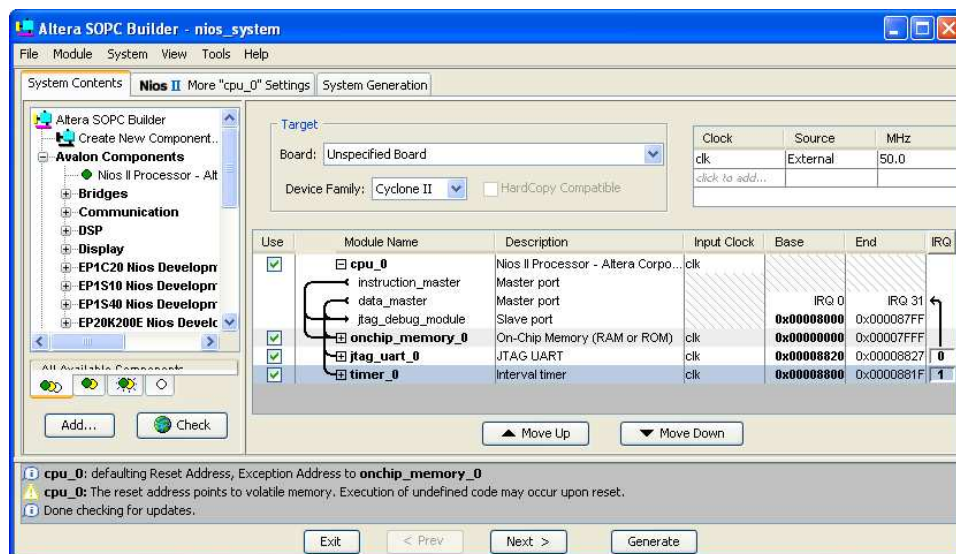

Figure 5. The Nios II system implemented by the SOPC Builder.
3. From the **System** menu, select **Auto-Assign Base Addresses**. You should now have the system shown in Figure 5.
handler as chosen by the SOPC Builder. The exception return address in the *ea* register must be decremented by 4 for external interrupts. Figure 5 gives a skeleton of the interrupt-service routine written in the Nios II assembly language.
To enable both interrupts, from the Interval Timer and the JTAG UART for reading characters (from Part IV), the bits b_1 and b_0 of the control register *ctl3* must both be set to 1. As seen in Figure 5, the JTAG UART is on interrupt line 0 (or b_0) and the Interval Timer is on interrupt line 1 (or b_1). The control register *ctl4*, also referred to as *ipending*, can be used to determine which interrupt has occurred. If an interrupt is disabled using the control register *ctl3*, it will not cause the interrupt-service routine to execute, nor will it show as being triggered in the control register *ctl4*, even if the device is driving its interrupt-request line to 1.